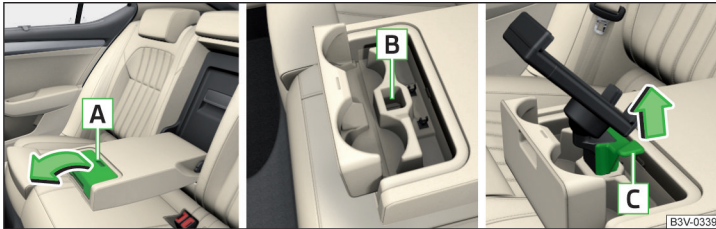

Fig. 137 Open storage compartment / stowage compartment for holder / remove holder
- ▶ To **insert**, hold the lid on the recess **A** and fold open in the direction of arrow » Fig. 137.